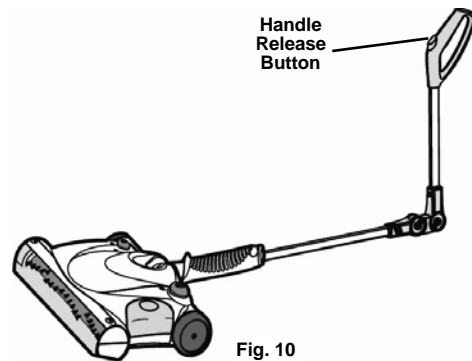

Fig. 10
2. To release the handle to a comfortable position, apply pressure to the top of the sweeper head with your foot while pulling back on the handle. To bend the folding pivot, press the release button on the upper handle while applying a forward pressure on the handle. The folding pivot will click into a bent position. (Fig. 10)